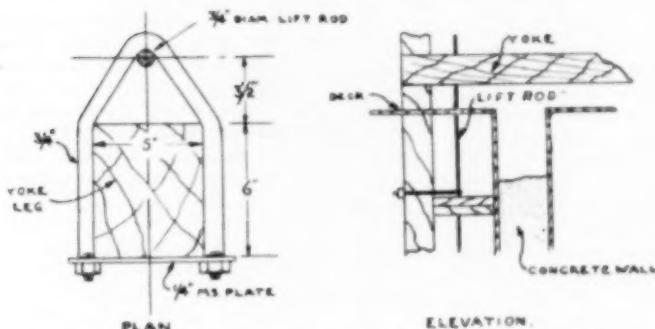

Fig. 26.—U-Bolts to Prevent the Legs of the Yokes from Spreading.
*Fig. 26* shows another precaution necessary and consists of a U-bolt holding the legs of the yokes to prevent them from spreading. It also helps to prevent the yokes tilting due to unbalanced strain on the forms.